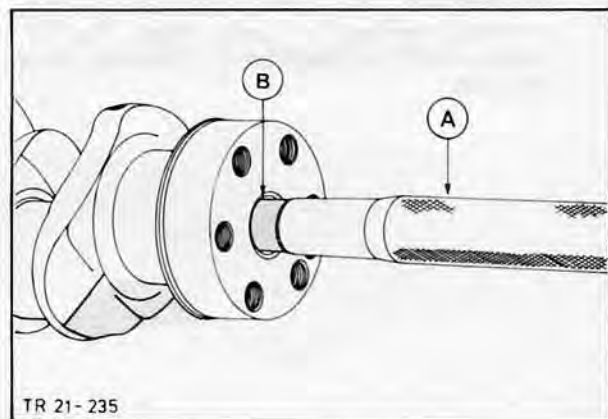

Fig. 54. Press crankshaft needle pilot into position
35. Insert new crankshaft spigot bearing using Special Tool 21-080, Fig. 54, and press into crankshaft. Line up crankshaft sprocket on spring washer and press on.